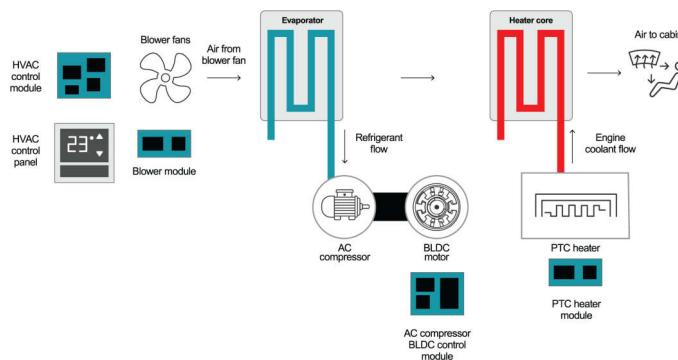

Figure 2. Heating and Cooling System in a HEV/EV
In the traditional internal combustion engine (ICE) vehicles, the heat source comes from the ICE. The air duct and valve are used to control the proportion of low-temperature and high-temperature air, which can control the temperature of the air sent to the car, and as a result, control the ambient temperature in the car. While in hybrid electric vehicles (HEV) and electric vehicles (EV), there is an interior PTC heater module in the system that heats the air. Figure 2 shows the heating and cooling system in a HEV/EV.